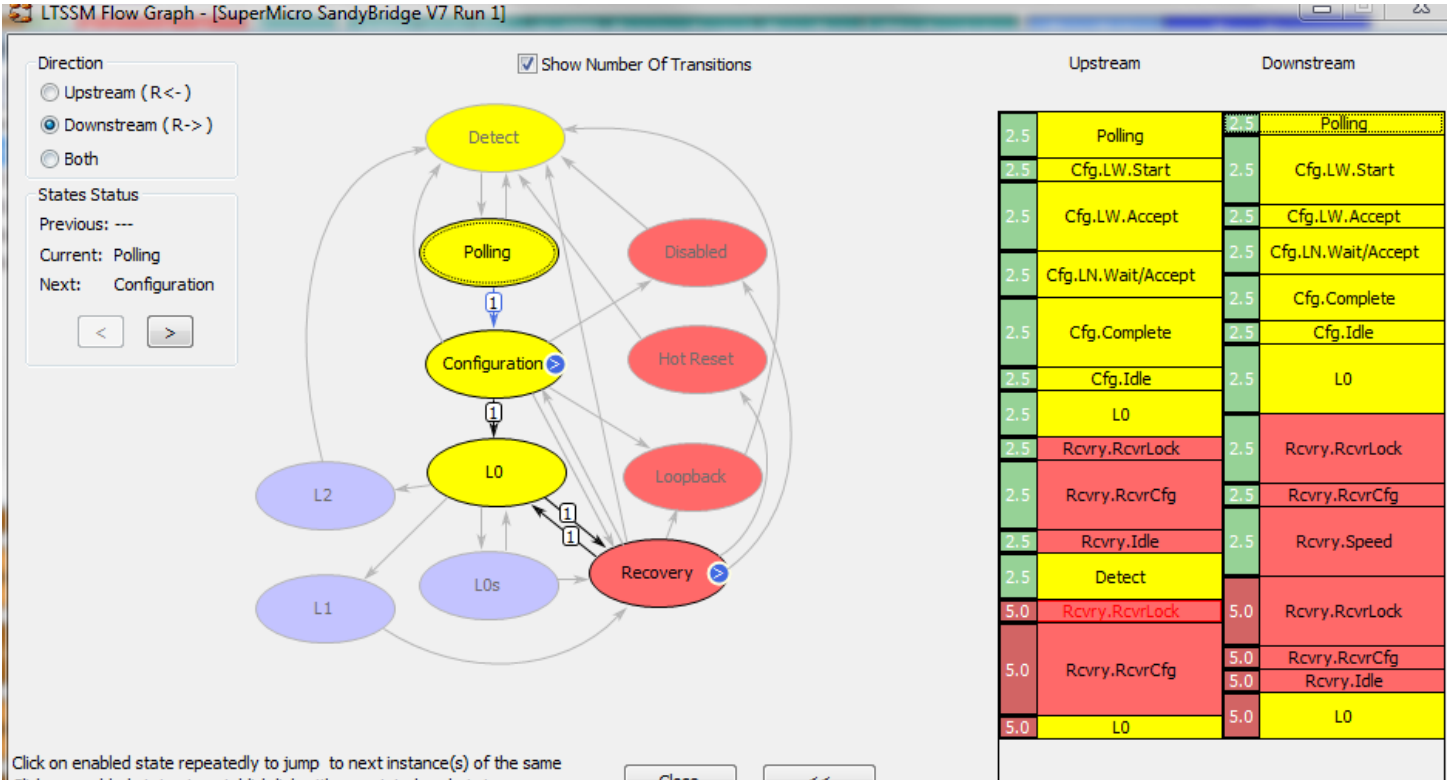

Figure 73 - Downstream LTSSM Flow Graph
3. LTSSM Flow Graph is one of the key features in Lecroy that shows how the link is transitioning through different states of LTSSM. Figure 73 shows downstream LTSSM flow graph where the link trains to L0 and again goes to recovery to link train to Gen2 speed. The process for link training to Gen2 speed has been described in section – **“Link Speed Train Down”**.